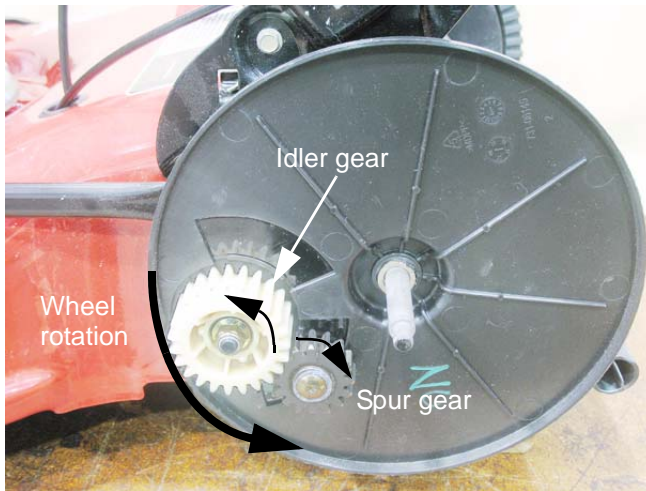

Figure 6.22
5. The idler gear is easily removed using a 9/16" wrench. See Figure 6.22.